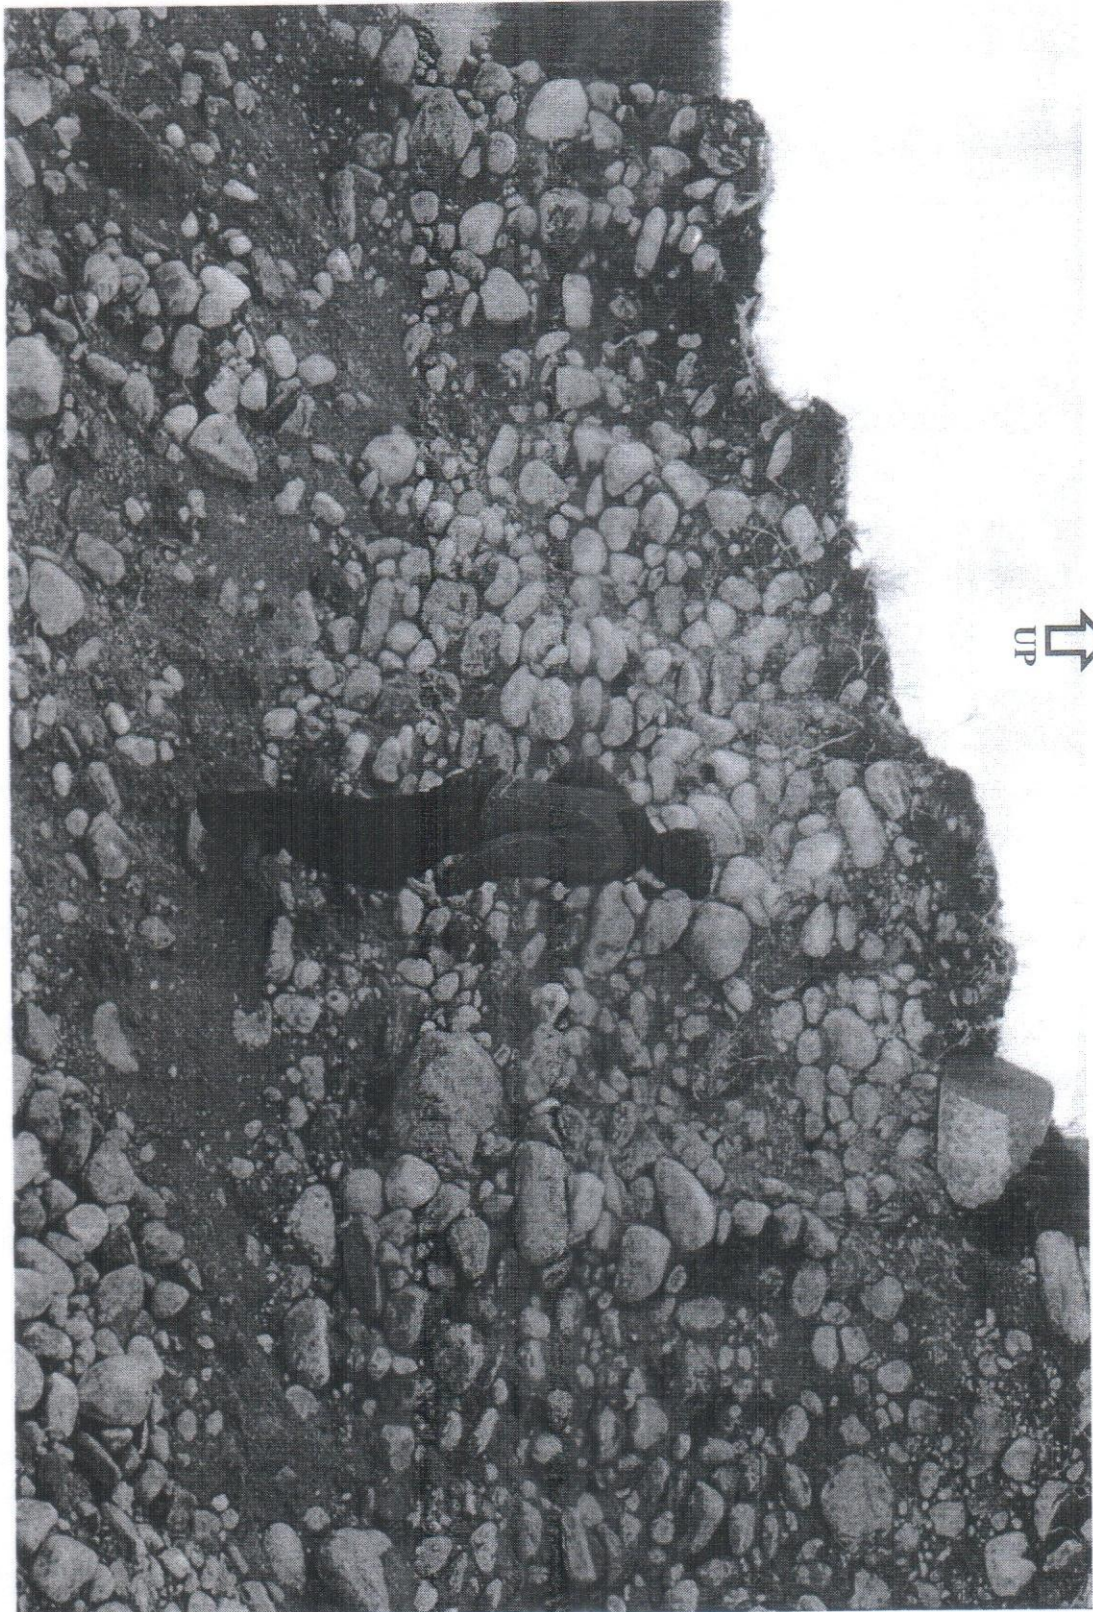

Figure 1 Site image (rotated) (Question: 4b)
- 4(b) You are asked to identify possible geologic and geomorphic history of the site shown (see next page: Figure 1). Please discuss your answer along with your reasoning as well as doubts and concerns. (10)